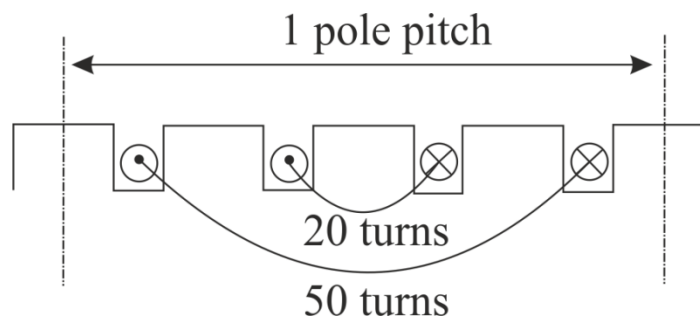

Figure B2
- c.** Neglecting all the leakage flux, show that when a magnet is required to produce a specific flux density B_g in an air-gap of length L_g and an area A_g , it is possible to minimize the magnet volume required by operating it at its maximum energy product working point $(BH)_{\max}$. Explain why this design approach for the magnet is rarely adopted in practical electrical machines. (5)
- d.** List the main factors that affect the iron losses of electrical machines, and explain how the influence of iron losses on high speed machines can be minimised. (4)
- B2. a.** Derive general expressions for the winding pitch factor, K_p , and the distribution factor, K_d , for both the fundamental and the n^{th} harmonic EMF components. Based on the coil EMF vectors, in order to obtain a maximum winding factor, determine the coil connections for a 3-phase, 12-slot, 8-pole surface mounted permanent magnet machine with single layer windings. (8)
- b.** Show that the winding skew factor can be derived using similar method as for the winding distribution factor. Explain the main advantages and disadvantages of using winding skew. (4)
- c.** A concentric winding which is distributed in the slots over one pole pitch in a machine having evenly spaced slots, as shown in Figure B2. Calculate the winding factor for the fundamental EMF.